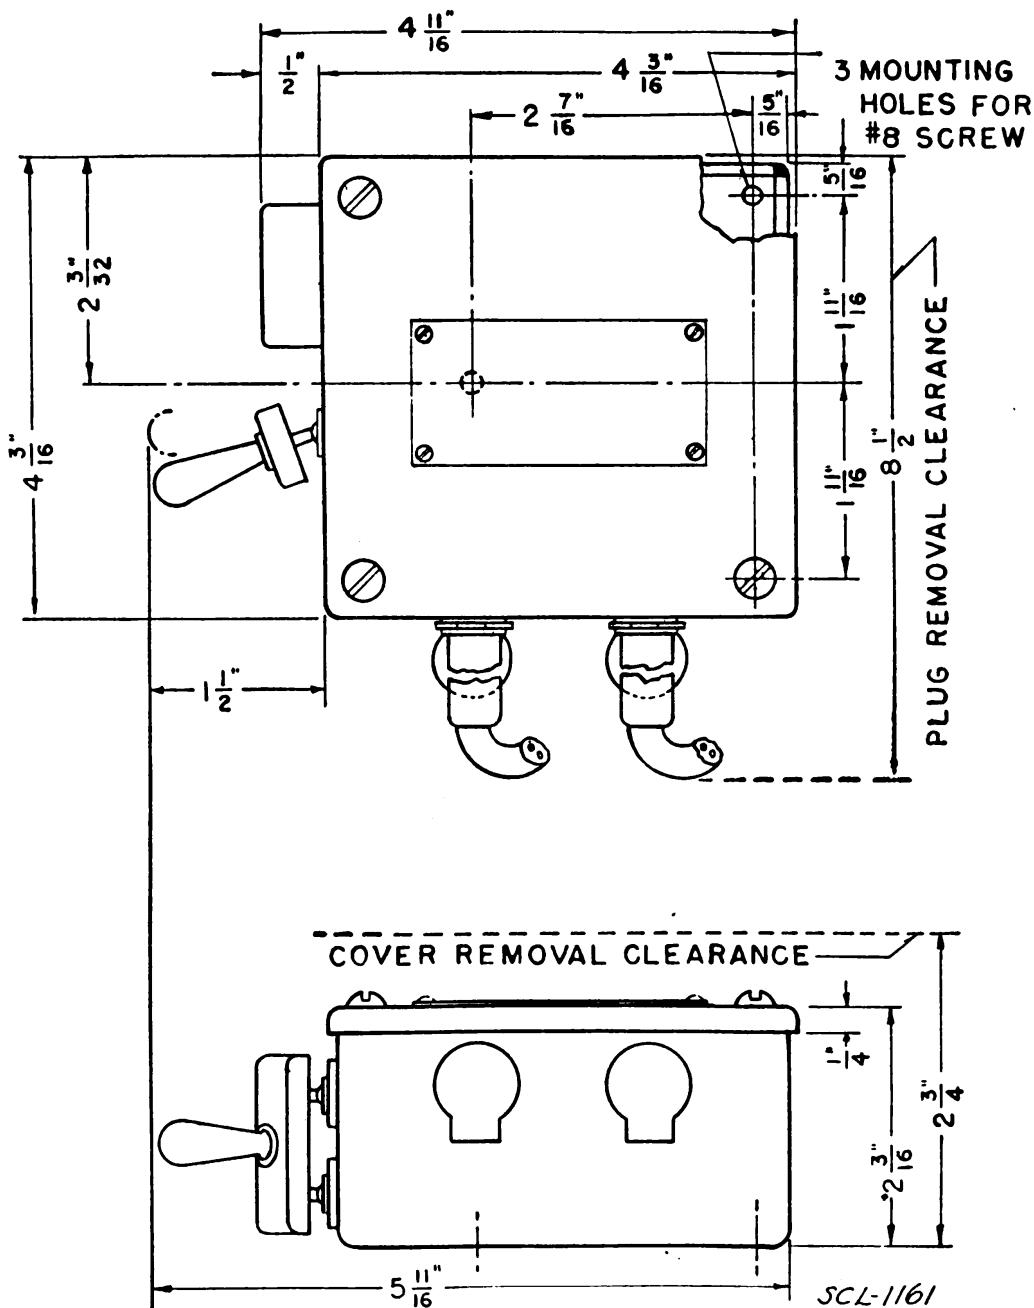

FIGURE 2.—Control box BC-422.
*b. Control box BC-422 (radio operator) (fig. 2).*—This control box consists of a sheet steel box approximately 4 inches long x 4 inches